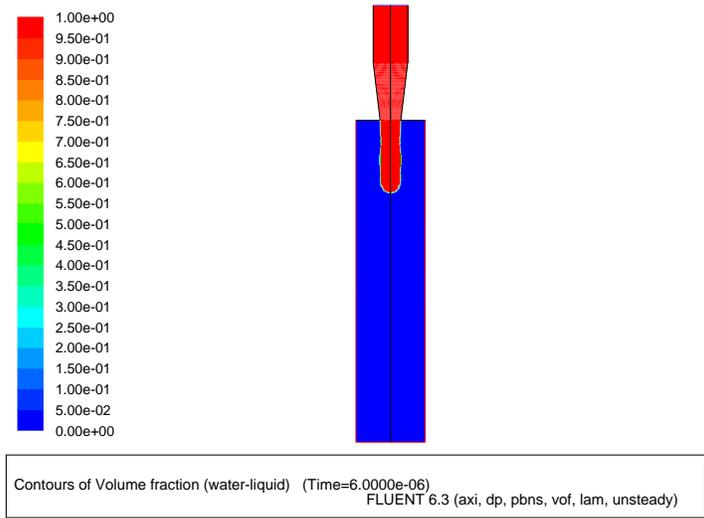

Figure 17.5: Contours of Water Volume Fraction After 6  $\mu$ s
2. Display filled contours of water volume fraction after 6 microseconds (Figure 17.5).